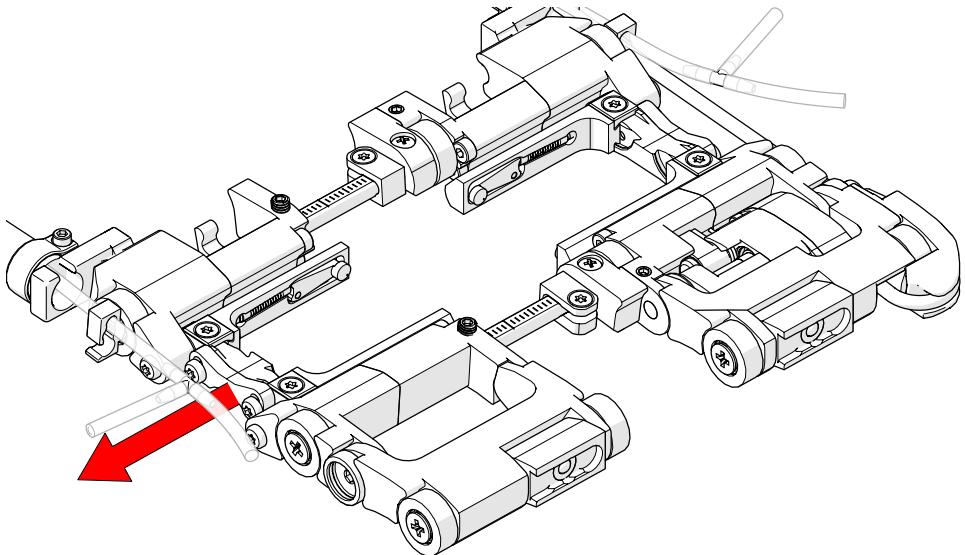

Fig. 80 - Separate the scanner sides
2. Gently pull the scanner apart, separating the dual and single sides (Fig. 80).